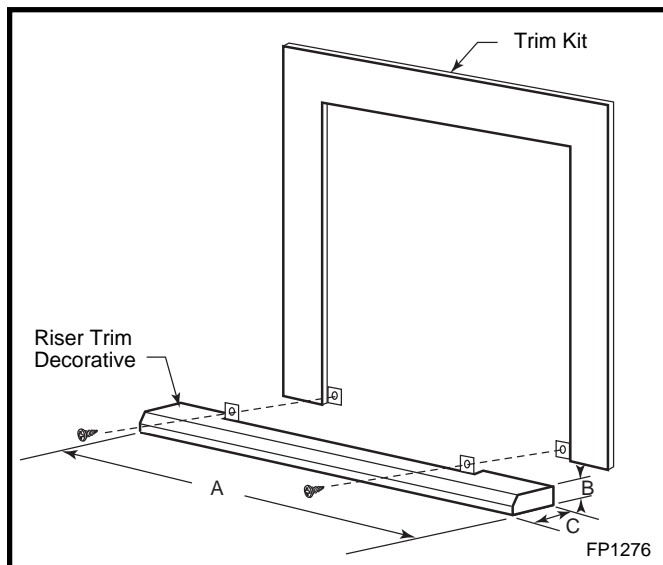

Fig. 55 RHEBSL, RHEBXL trim kit.
3. Remove the two (2) screws at the bottom of the trim.
4. Install the riser at the bottom of the trim. (Fig. 55)
5. Fasten the trim with the same two (2) screws removed on step 3.